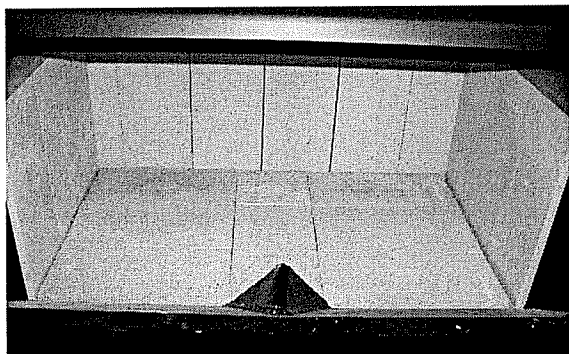

Figure 11C
Step 3: Place the remaining firebrick, (7) 4 1/2" x 9" & (1) 4 1/2" x 4 1/2", into the bottom of the firebox. **Figure 11C.**